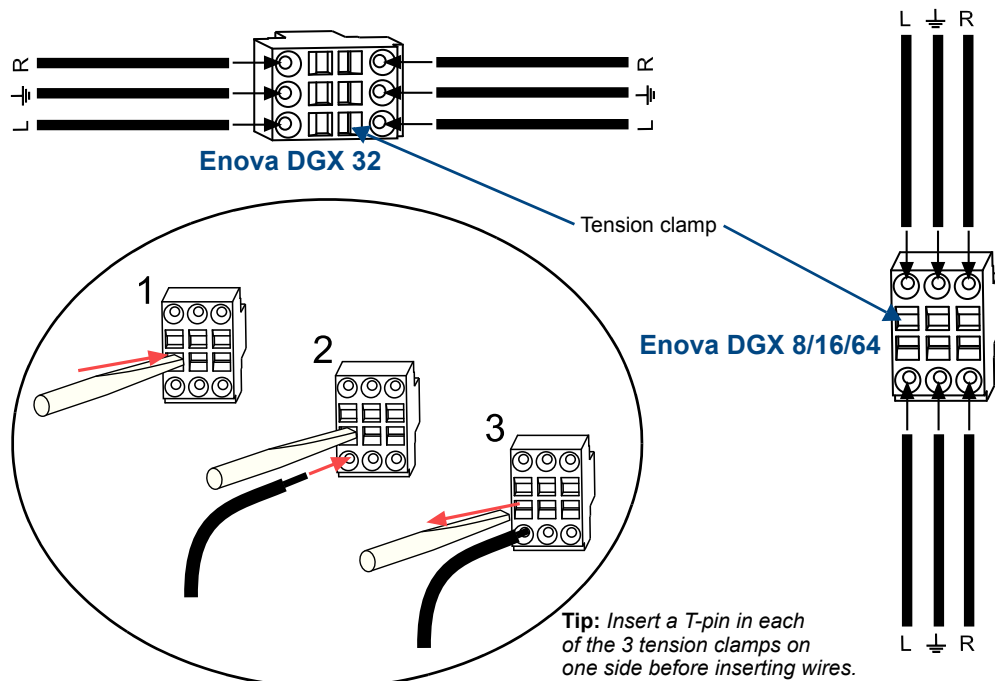

FIG. 77 Audio wiring for AIE Board
- Audio boards and connectors are positioned vertically on the Enova DGX 32 and horizontally on the Enova DGX 8/16/64. Be sure to note the labeling for the wiring on the “R” (right channel) and the “L” (left channel) wires in FIG. 77.